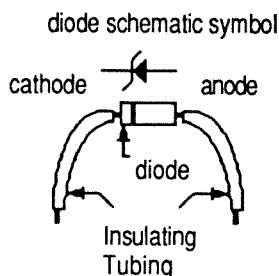

Figure 1. Zener diode Insulating Tubing Installation
- [] 5. Slide insulating tubing onto each full-length lead of a new 1N4764 Zener diode, leaving approximately 1/8" of lead exposed at each end, as shown in Figure 1. Mount it on the board with the proper polarity to replace ZR2. Solder the diode's leads to the board.